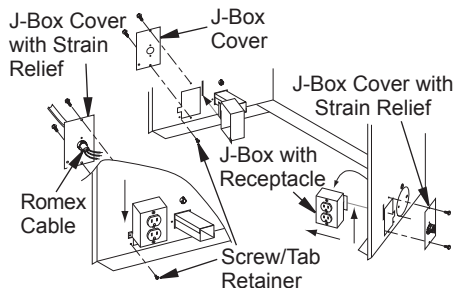

Figure 26 - Relocating Junction Box Receptacle and Electrical Supply Connection
1. Remove 2 screws and outer cover with strain relief bushing on right side of cabinet (see Figure 26).
8. With junction box cover removed, pull the end of 3-wire Romex supply line through universal strain relief bushing on cover (see Figure 26, page 18).